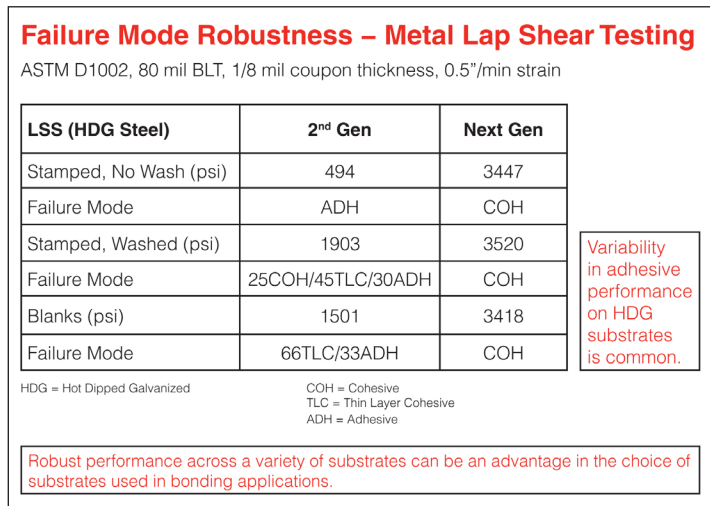

Figure 11: Failure Mode Robustness – Metal Lap Shear Testing
- Failure Mode Robustness Test – This test proved that the acrylic adhesive offered robust performance across a variety of substrates. It showed that the “Next-Generation” adhesive offer improved functioning compared to “Second-Generation” adhesives in bonding difficult-to-bond substrates. (See Figure 11.)